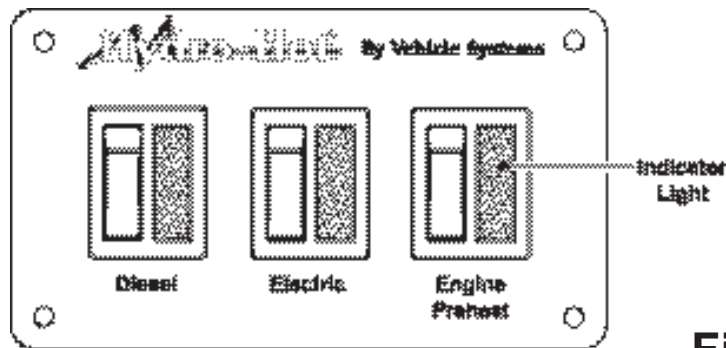

Figure 2
Turn the Diesel switch ON, reference Figure 2. This procedure will activate the Diesel-Burner and the indicator light located on the Diesel switch. Allow 10-20 minutes for the Hydro-Hot System to reach operating temperature. Please note that the Diesel-Burner is the primary heat source for heating both the interior and the domestic hot water (such as when cool ambient temperatures exist and/or when there is a high demand for domestic hot water).
Turn the Electric switch ON, reference Figure 2. This procedure will activate the 120 VAC Electric Heating Element and the indicator light located on the Electric switch. Allow 1-2 hours for the Hydro-Hot System to reach operating temperature.
A. Turn the Hydro-Hot’s Engine Preheat switch ON, reference Figure 2. This procedure will activate the Engine Preheat Circulation Pump and circulate the engine’s coolant through the Engine Preheat System. This feature will adequately warm the engine for easy start-ups on cool mornings.